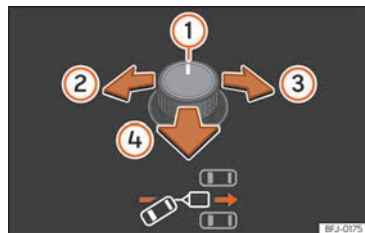
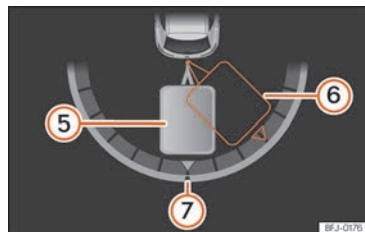

Fig. 148 Outside rearview mirror rotary control: adjust the trailer angle.
Fig. 149 Instrument cluster display: engage reverse.
Key to the >>> Fig. 148, >>> Fig. 149:
- Tilt the rotary control until the desired direction is reached »» Fig. 148. A representation of the tow vehicle and trailer set is shown on the instrument cluster screen for guidance purposes »» Fig. 149.